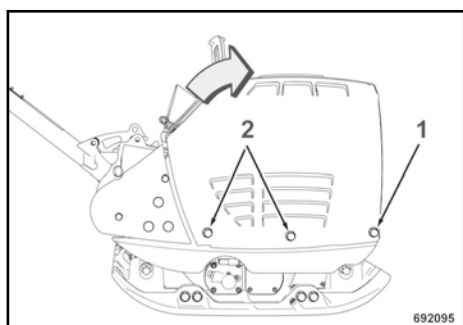

Fig. 81
Loosen the hood fasteners (1) on both sides and remove the fasteners (2) from both sides ↪ Fig. 81.